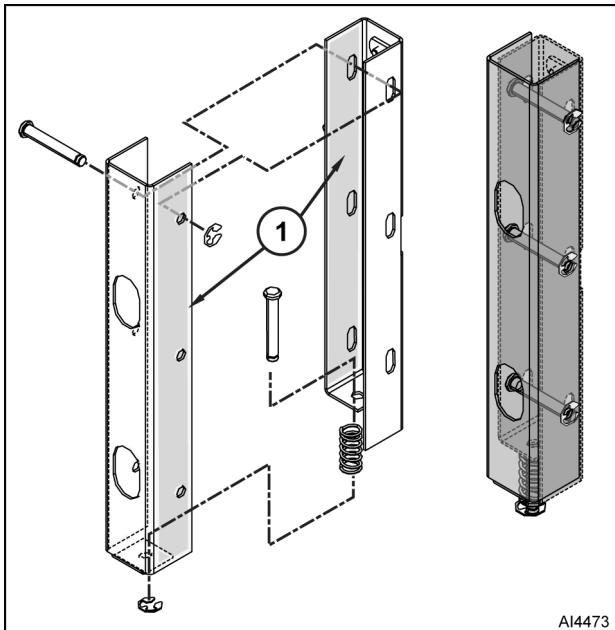

Fig. 17
3. Remove E-clip (Fig. 17) from latch assembly pins and pull pins from latch mechanism.
**NOTE:** Apply Lubriplate 630AA (1, Fig. 17) to sides of sliding bracket.